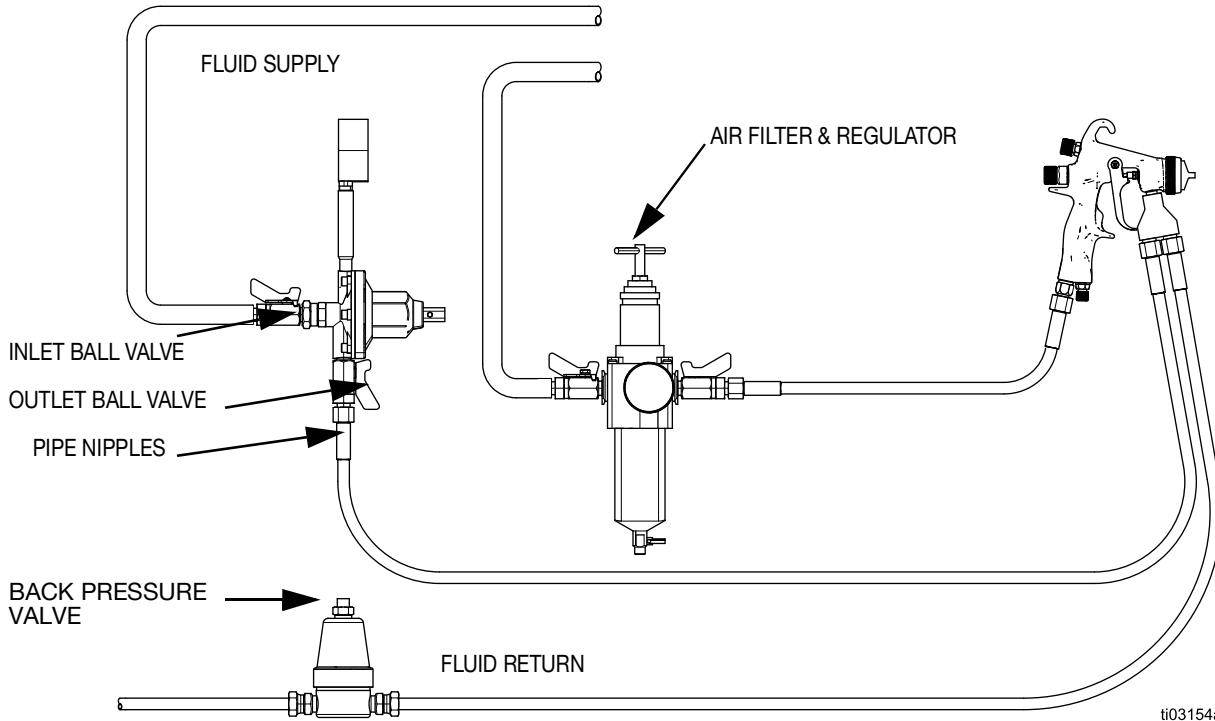
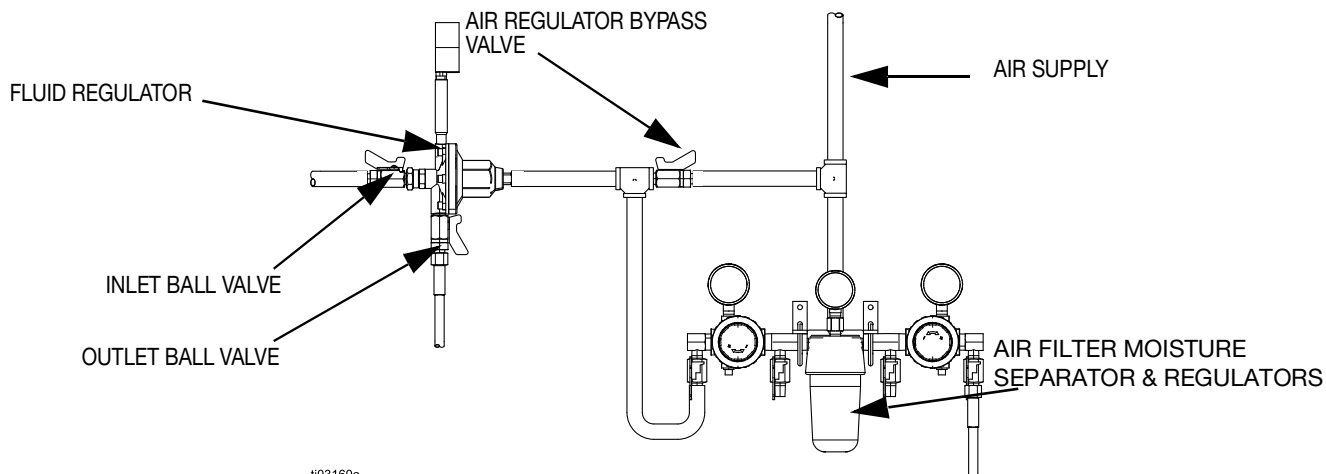

FIG. 1
FIG. 2: Model 214980
1. Remove the temporary plumbing and install one regulator for each spray gun. See the **Dimensions**, page 21, for regulator dimensions. Mount the regulator in a vertical position, as shown in FIG. 1 and FIG. 2, for the best flow and minimum pigment settling. The gauge, if used, must be mounted vertically. If the regulator is mounted horizontally, an elbow must be used so the gauge will be vertical.
2. Close the fluid regulator's inlet ball valve. Refer to FIG. 1 and FIG. 2.
1. Start the pump and open the fluid regulator's inlet ball valve to admit fluid to the regulator. See FIG. 2.
3. Close the ball valve at the regulator's air inlet. Refer to FIG. 2.
6. Remove the swivel union (23) and spring (40) from the regulator body.